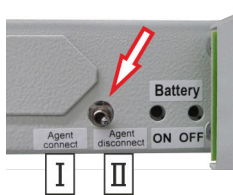

Fig. 17: Blocking switch
3. ➤ To block the system: Switch the blocking switch (Fig. 17/arrow) to "Agent disconnect [blocked]" (Fig. 17/ II).
To activate the system: Switch the blocking switch (Fig. 17/arrow) to "Agent connect [not blocked]" (Fig. 17/ I).